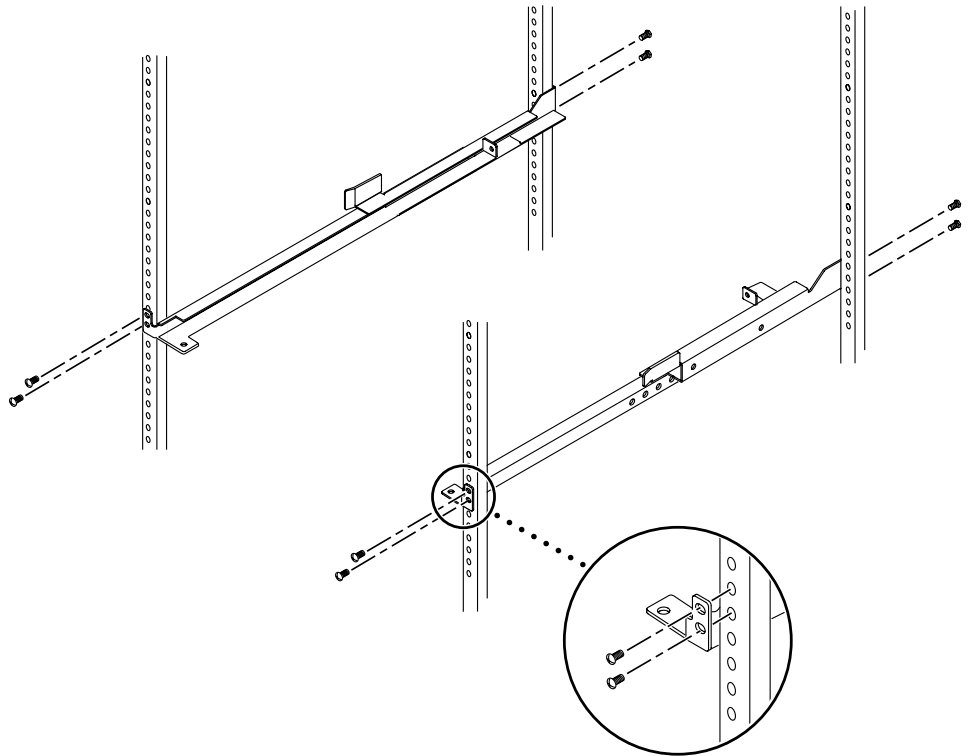

FIGURE 5 Installing Rails into the Rack
5. Fasten the rails to the rack (FIGURE 5).